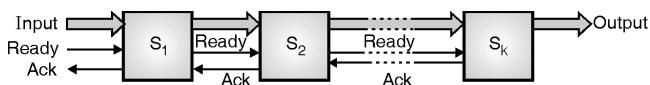

Fig. 10.7.6 : Asynchronous linear pipelining system
- It also repeats the same process as explained with stage i and $i + 1$. This can be explained as shown in the Fig. 10.7.6.